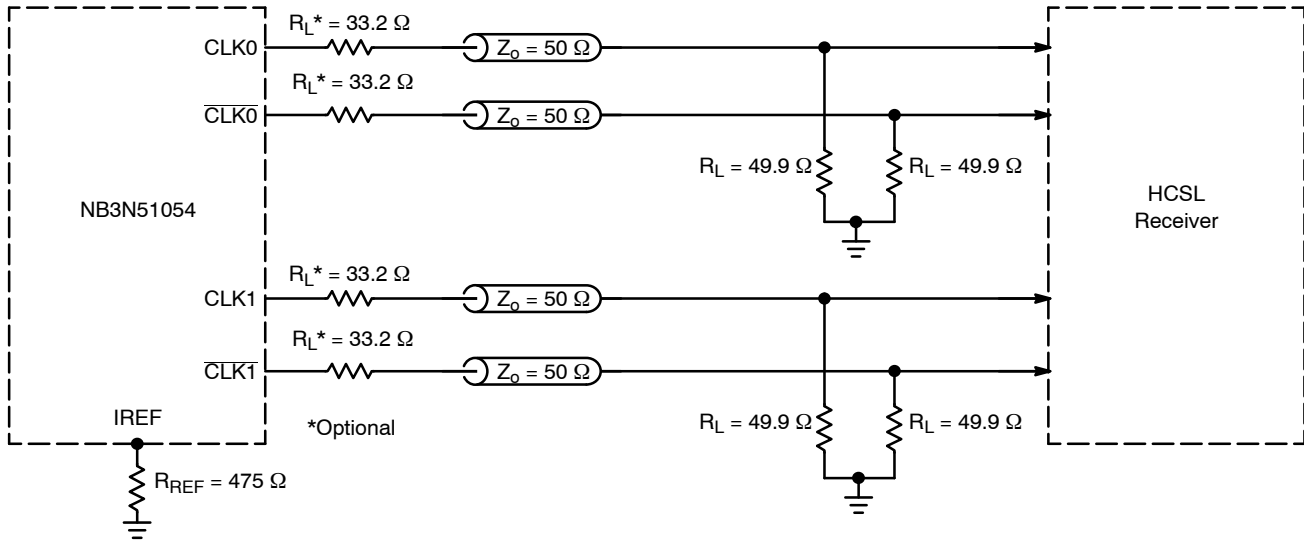
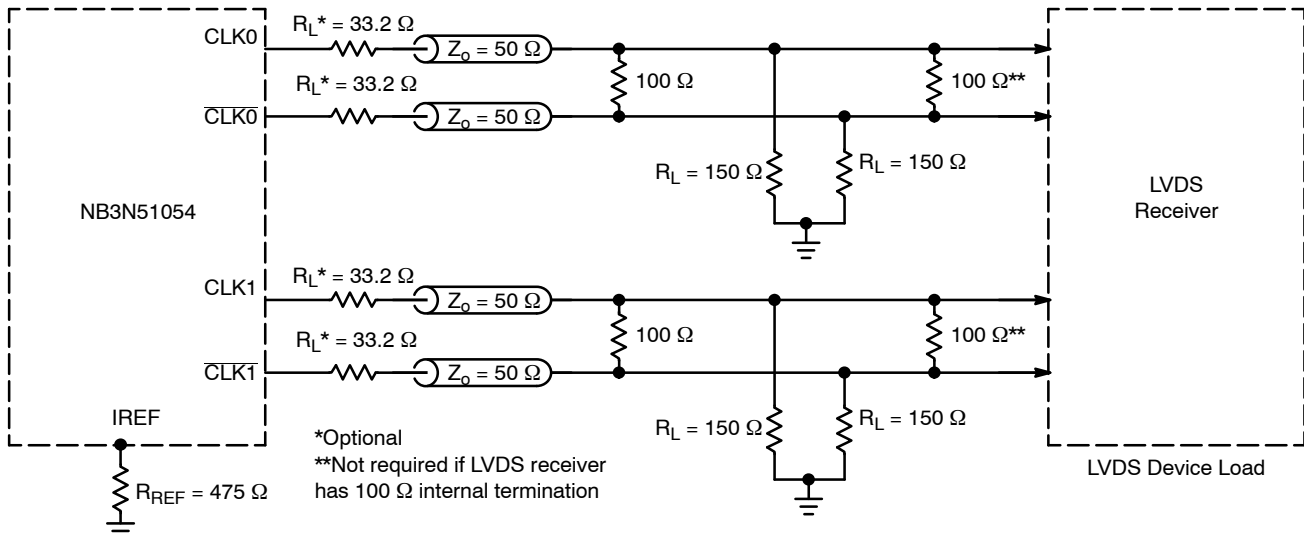

Figure 6. Typical Termination for HCSL Output Driver and Device Evaluation
Figure 7. Typical Termination for LVDS Device Load
4. Measurement taken with outputs terminated with $R_S = 33.2 \Omega$, $R_L = 49.9 \Omega$, with test load capacitance of 2 pF and current biasing resistor set at $R_{REF} = 475 \Omega$. See Figure 6. Guaranteed by characterization.
9. Measurement taken from differential output on single-ended channel terminated with $R_S = 33.2 \Omega$, $R_L = 49.9 \Omega$, with test load capacitance of 2 pF and current biasing resistor set at $R_{REF} = 475 \Omega$. See Figure 6. Guaranteed by characterization.
14. Measurement taken from differential output on single-ended channel terminated with $R_S = 33.2 \Omega$, $R_L = 49.9 \Omega$, with test load capacitance of 2 pF and current biasing resistor set at $R_{REF} = 475 \Omega$. See Figure 6. This parameter is guaranteed by characterization. Not tested in production
The outputs can be terminated to drive HCSL receiver (see Figure 6) or LVDS receiver (see Figure 7). HCSL output interface requires $49.9\ \Omega$ termination resistors to GND for generating the output levels. LVDS output interface may not